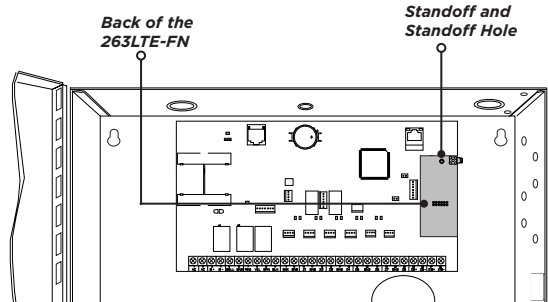

Figure 3: 263LTE-FN on an XR150/XR550 Panel
3. Secure the 263LTE-FN on the 12-pin cell module connector. See Figure 3.